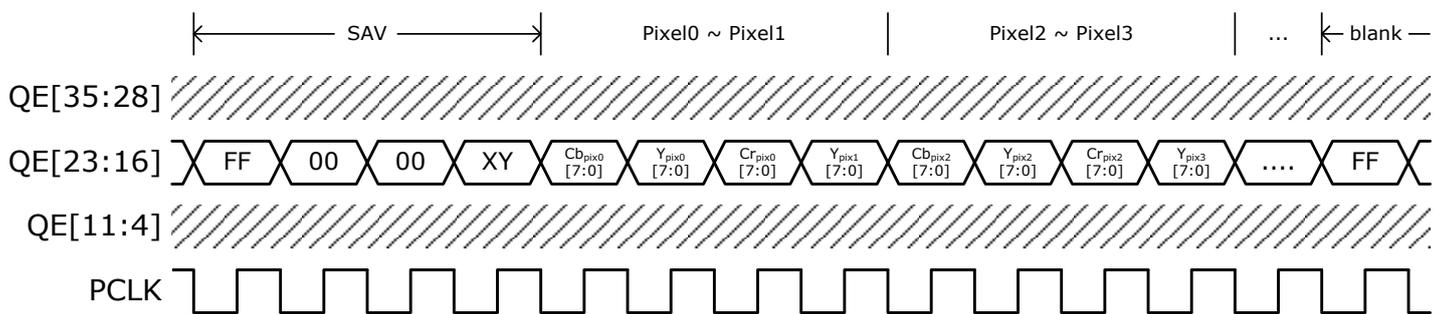

Figure 11. 8-bit CCIR-656
The CCIR-656 format is yet another variation of the YCbCr formats. The bus width is further reduced by half compared from the previous YCbCr 4:2:2 formats to 8-bit. To compensate for the halving of data bus, PCLK frequency is doubled. With the double-rate output clock, luminance channel (Y) and chroma channels (Cb or Cr) are alternated. The syncs signals are embedded in the Y-channel. Normally this format is used only for 480i, 480p, 576i and 576p. The IT66021FN supports CCIR-656 format of up to 720p or 1080i, with the doubled-rate clock running at 148.5MHz. CCIR-656 format supports embedded syncs only. Figure 11 give examples of 8-bit CCIR-656. Note that while "embedded syncs" implies that neither DE nor H/VSYNC are required, the IT66021FN optionally output these signals via proper register setting to ease the design for some backend processors.